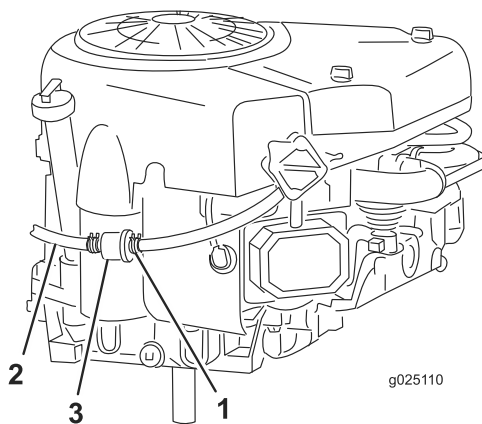

Figure 30
7. Squeeze the ends of the hose clamp together and slide it up the fuel line toward the fuel tank (Figure 30).
8. Pull the fuel line off the fuel filter (Figure 30) and allow the fuel to drain into an approved fuel container or a drain pan.
10. Slide the hose clamp close to the fuel filter to secure both the fuel line and the fuel filter (Figure 30).
The best time to replace the fuel filter (Figure 30) is when the fuel tank is empty. Never install a dirty fuel filter after it has been removed from the fuel line.